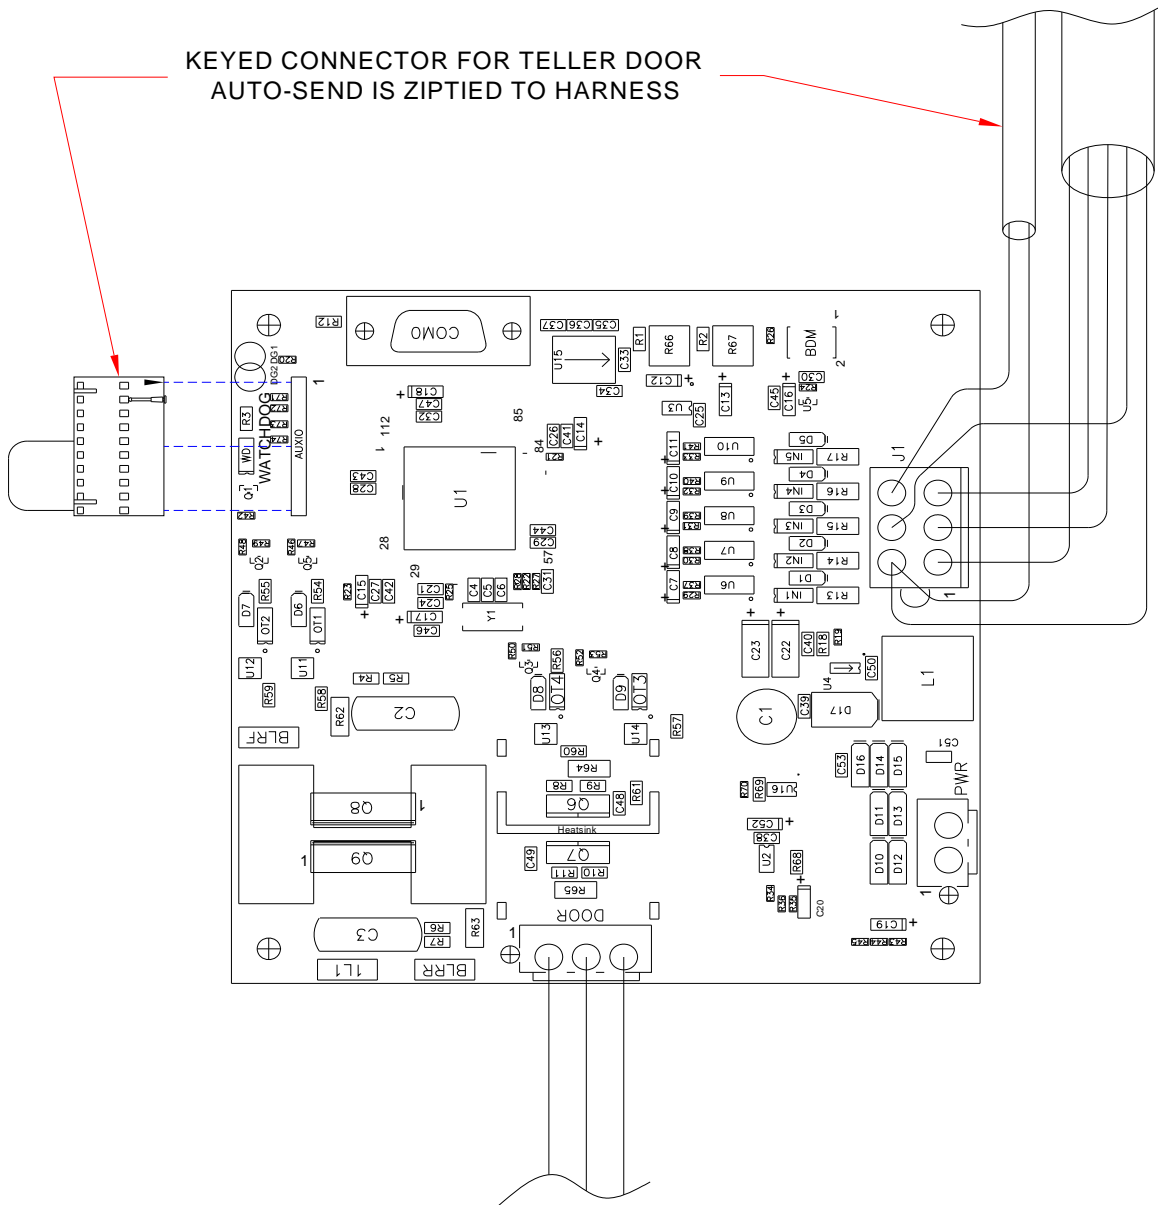
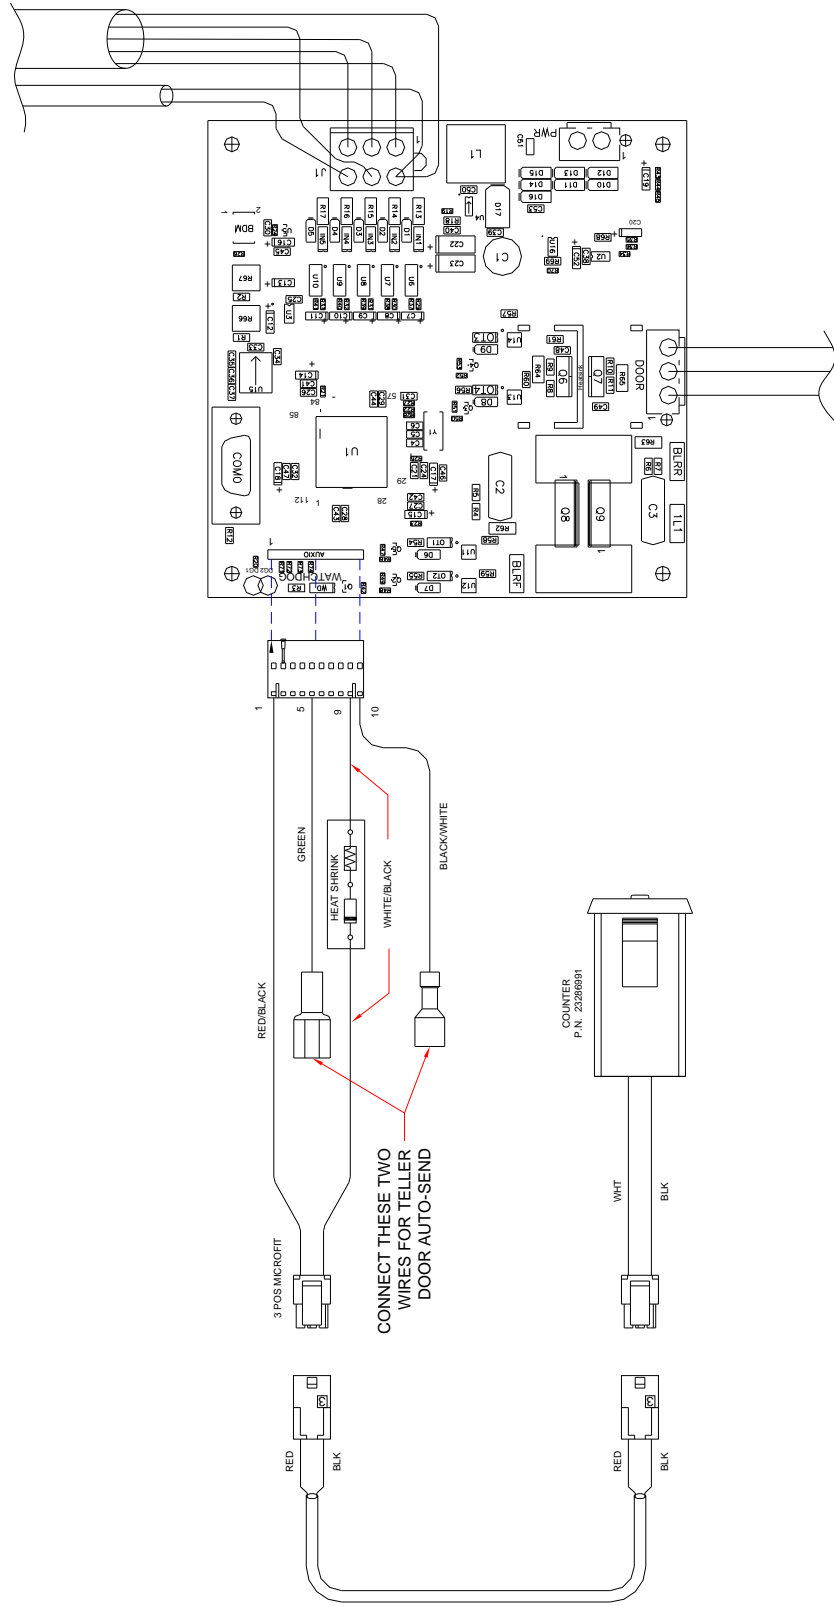

Fig.1
Fig. 2
4. Check to see if the 10 position "Teller Door Closed Auto-send" jumper/connector, (See Fig. 1), has been installed onto the 10 pin "AUXIO" connection in the upper left corner of the PLC board. If it is, plug the 0.187 quick slide connectors, (See Fig. 2), on the Counter Harness together and remove the jumper/connector from the board. If not, leave these two wires disconnected.